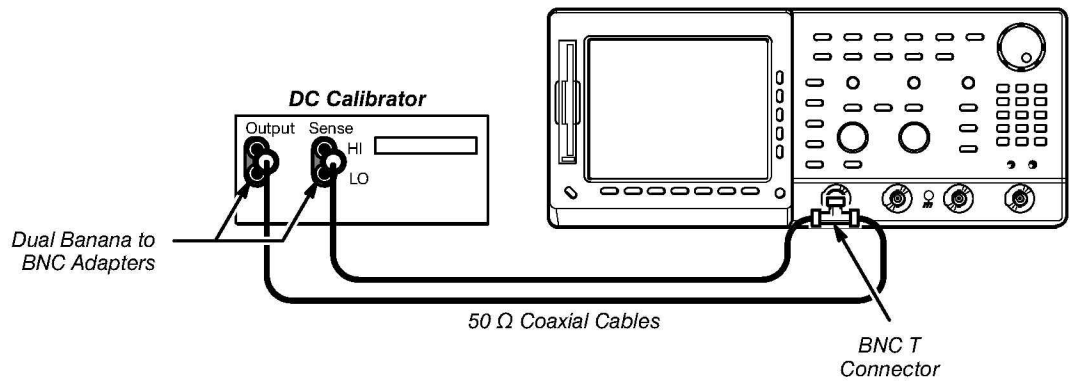

Figure 4-24: Subsequent Test Hookup
- Connect the output of a DC calibration generator through a dual-banana connector followed by a 50 Ω precision coaxial cable to one side of a BNC T connector. See Figure 4-24.
- Connect the Sense output of the generator through a second dual-banana connector followed by a 50 Ω precision coaxial cable to the other side of the BNC T connector. Now connect the BNC T connector to **CH 1**. See Figure 4-24.